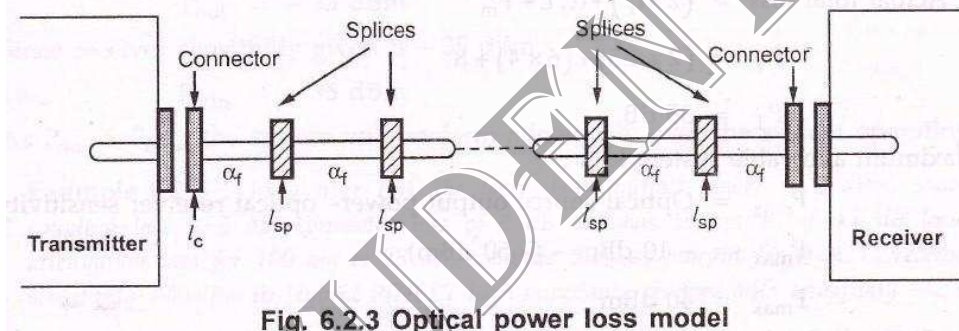

Fig. 6.2.3 Optical power loss model
- x For optimizing link power budget an optical power loss model is to be studied as shown in Fig. 6.2.3. Let  $l_c$  denotes the losses occur at connector.  $L_{sp}$  denotes the losses occur at splices.  $\alpha_f$  denotes the losses occur in fiber.